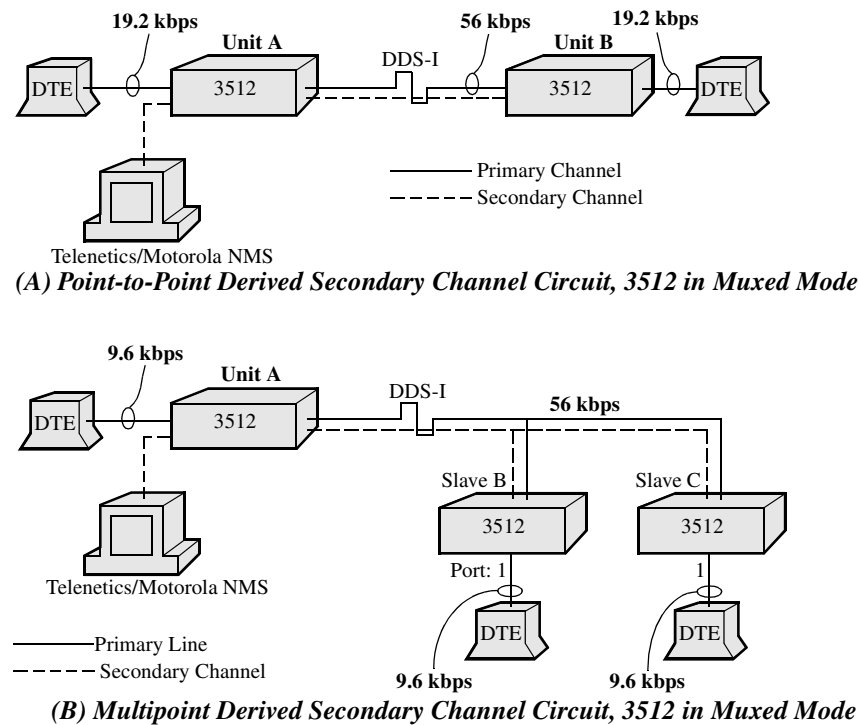

Figure 3-3. DDS-I Derived Secondary Channel Using Multiplexing
Figure 3-3 shows the **derived secondary channel obtained with Muxed mode** on point-to-point (A) and multipoint (B) circuits. Ports can be configured as channel sharing or time division multiplexing (TDM).
Point-to-Point Circuit, Figure 3-3 (A):
Multipoint Circuit, Figure 3-3 (B):